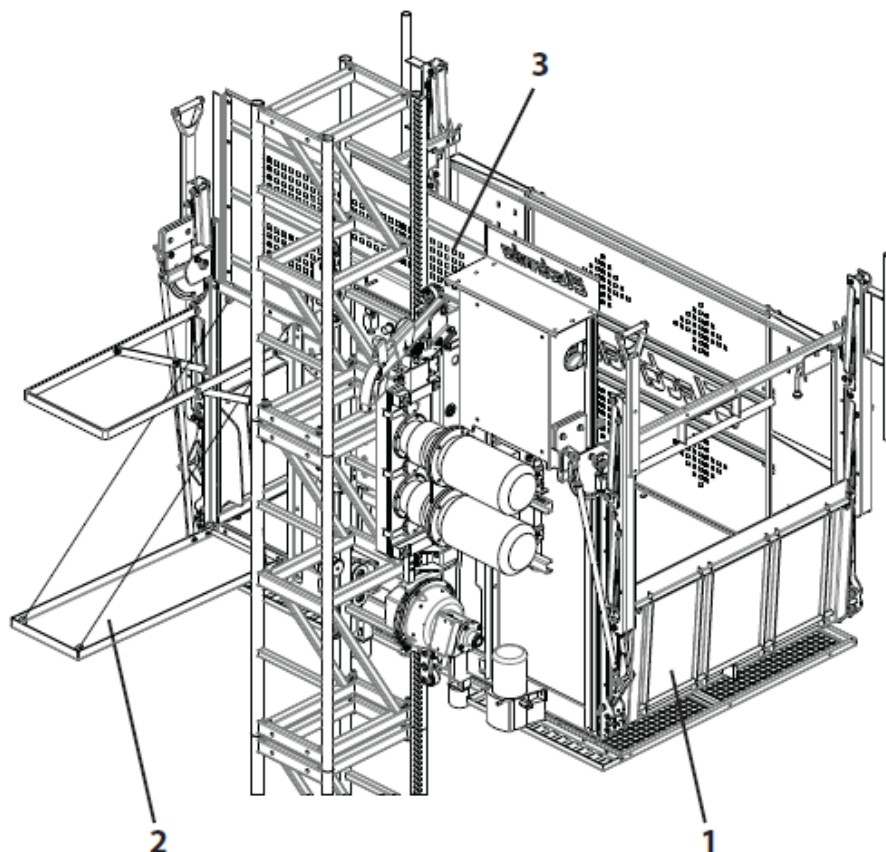

Figure 8.3
The guards are shown in figure 8.3; the bars (1) allow closing the upper part of ramps giving access into the loading unit; the movable bar (2) is the upper guard of platform used for assembling the wall anchors and (3) is the removable mast guard (where applicable).